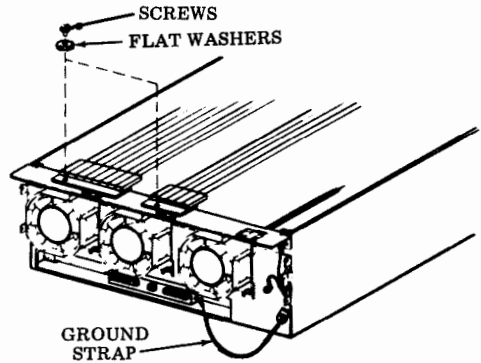

Fig. 36
Step 18 — Attach the braided ground strap to the slip-on terminal on the ventilation assembly (Fig. 36). Align the controllers and tighten screws and flat washers retained in Steps 8 and 11.